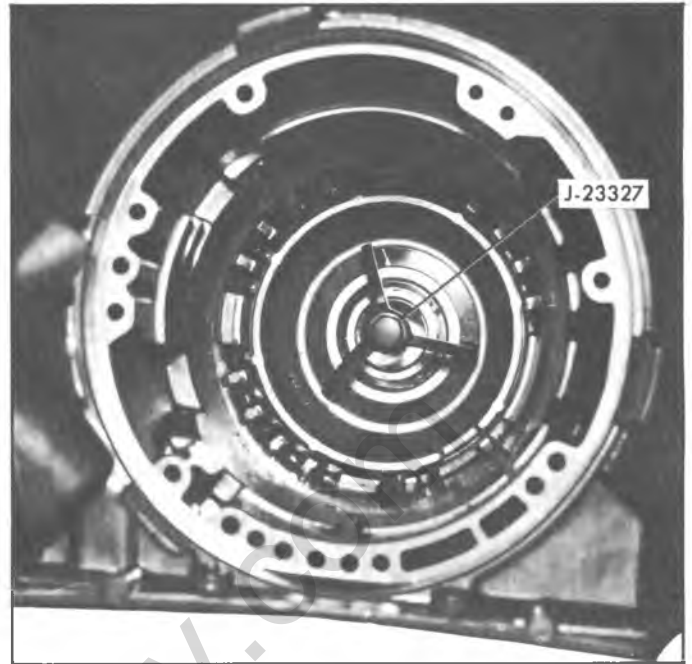

Fig. 44N--Compressing Low and Reverse Clutch Piston Spring Retainer
20. Compress low and reverse clutch piston spring retainer using tool J-23327 (fig. 44N) and remove piston retaining ring and spring retainer.